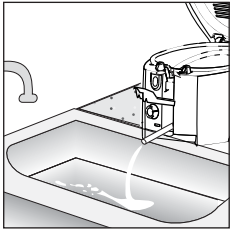

fig. 16
- Wash the tank with hot water and washing up liquid, then carefully rinse and dry everything. In the models fitted with an oil drainage pipe, always use it to empty out the water (fig. 16); then remove any remaining water which has collected in the oil drainage tube.